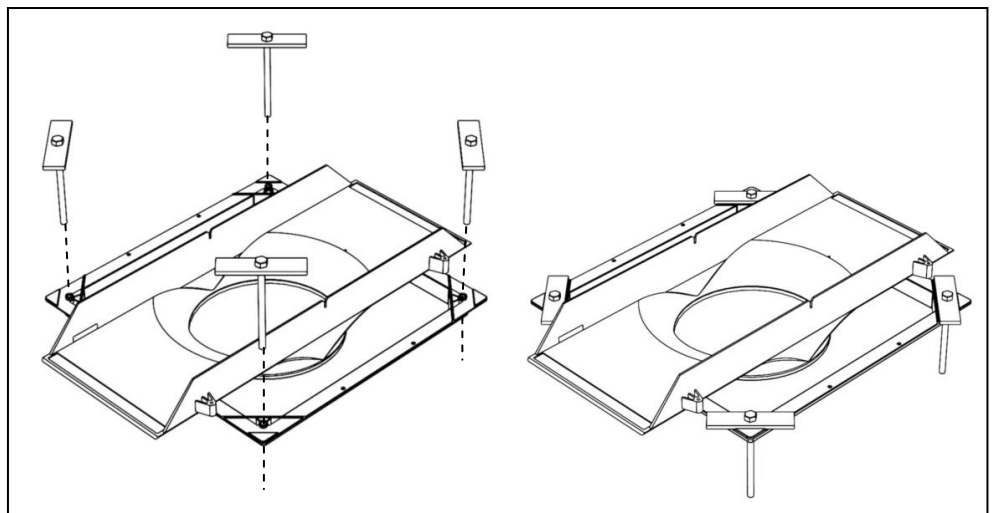

Fig 10: Insert the four M8 bolts and hold down bars into the corners of the brace
- Thread a hold down bar onto the M8 bolt and push the bolt almost all the way into the hole in each corner of the brace (Fig 10)